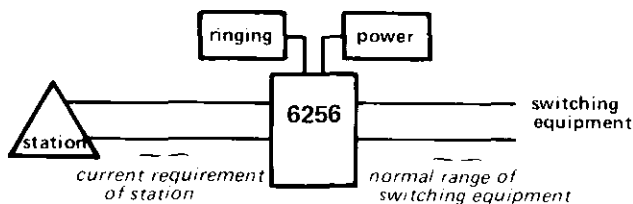

figure 2. Range limits
2.10 While normally physically at or near the centrex's trunk-link port, the 6256 may be located at any point in the loop at which the unit can be mounted, powered, and optionally supplied with ringing. This location must also be within the normal range of the switching equipment and within current requirements of the station. (Refer to paragraphs 2.06 thru 2.09 and figure 2.)